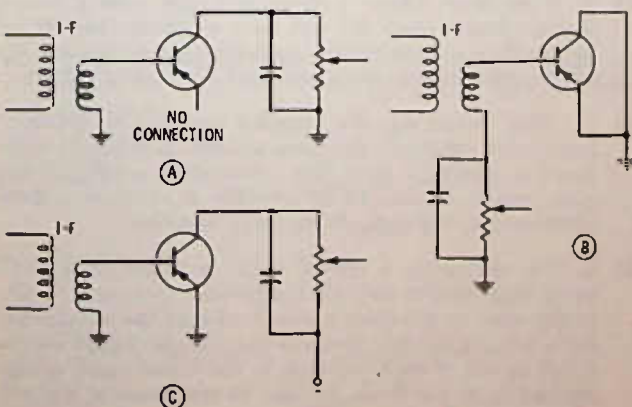

Fig. A-5.
8. B. A transistor can be used as a detector by using it as a diode. Fig. A-5 shows how a transistor may be used as a detector, and there are other variations possible as well.